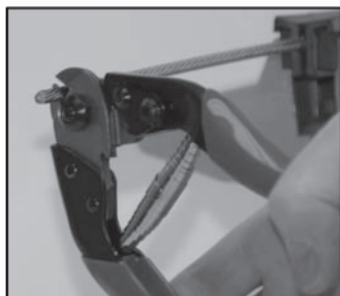

Figure 1
- Step 1 – Cut cable end to length. *Note: Once cut, the cable should not exhibit any burrs or strand deformation.* See figure 1.